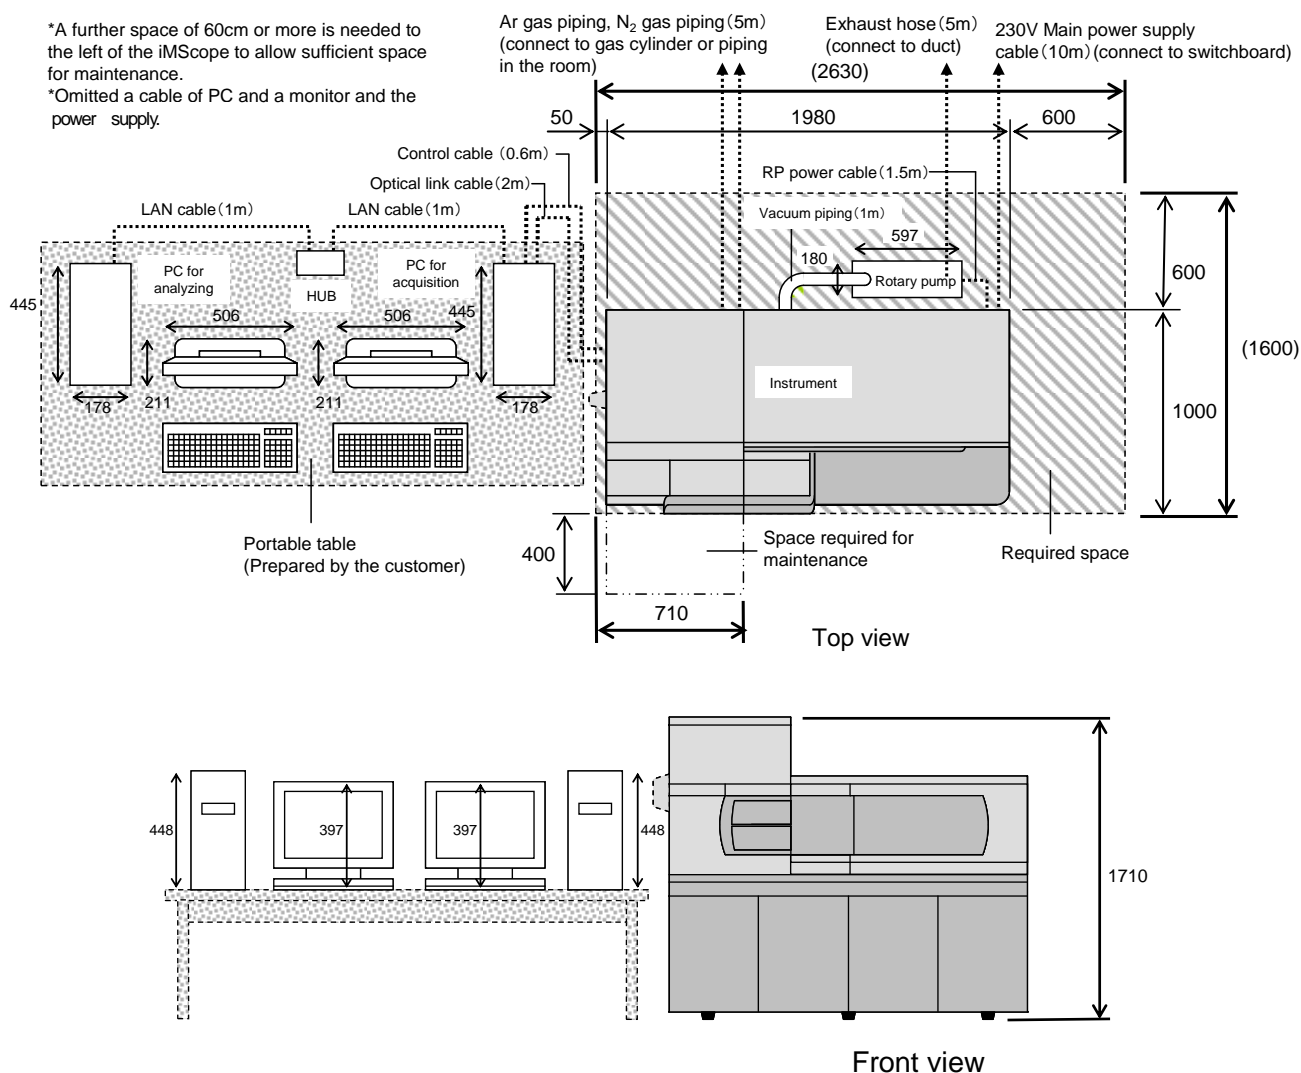

Fig.1 Example of installation layout (Front view and Top view) [mm]
- In the example installation given in Fig.1, a separate PC system desk has been prepared, with the PC system placed on it.